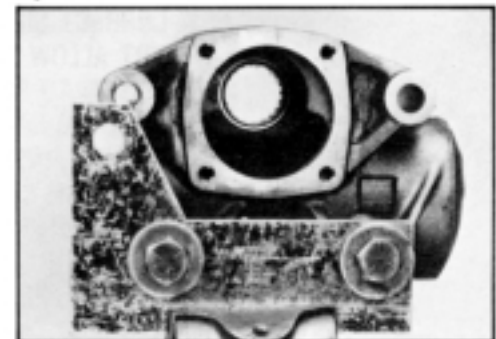

Figure 136
30. Position housing (55) firmly in vise positioned as it was for the disassembly procedures. SEE FIGURE 136.